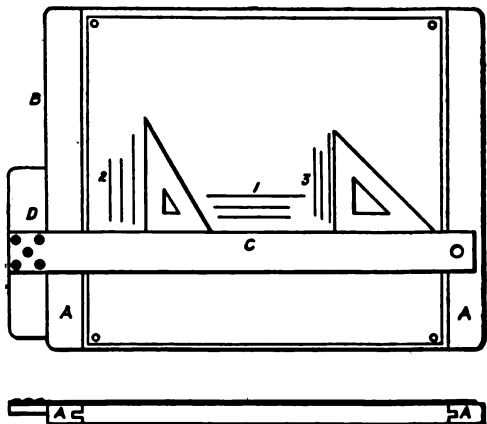

Fig. 1.
1. *Drawing-Board.* — The board is generally made of well-seasoned pine, from  $\frac{3}{4}$  to  $\frac{7}{8}$  in. thick, and for ordinary work, a board 17 x 22 in. in size will be found most convenient. Even though the board be well-seasoned, it has a tendency to warp, and, to prevent this, the maker usually places two cleats, either on the underside of the board or along its shorter edges (AA, Fig. 1). One of the shorter edges of the board (B, Fig. 1) is used as a working edge; and since the accuracy of the drawing is dependent upon the evenness of this edge, it is made a true plane. It is customary to place the working edge at the left hand, and for most work this is the only edge of
2. *T-Square*.—The T-square consists of a blade (C, Fig. 1) and head (D, Fig. 1); the head being securely fastened to the blade by means of screws. Various woods are used for making the blade and head, pear-wood being the most common. However, on the better grade of T-squares, the blades are edged with either ebony or celluloid. Ordinarily the head is rigidly attached to the blade, so that the inner edge of the head is exactly at right angles with the upper edge of the blade. In some cases the blade is made movable so that it can be adjusted to any angle with reference to the head. In using the T-square, the inner edge of the head slides up and down the working edge of the board and should be held firmly against it with the left hand. Since the working edge of the board is a true plane, it is possible to draw parallel lines (1, Fig. 1), by sliding the T-square along this edge, and all horizontal lines are drawn in this manner. In drawing, only the upper edge of the blade should ever be used, and this edge must not be injured in any manner.
possible to draw vertical lines (2 and 3, Fig. 1), that is, lines which are parallel to the working edge of the drawing-board.